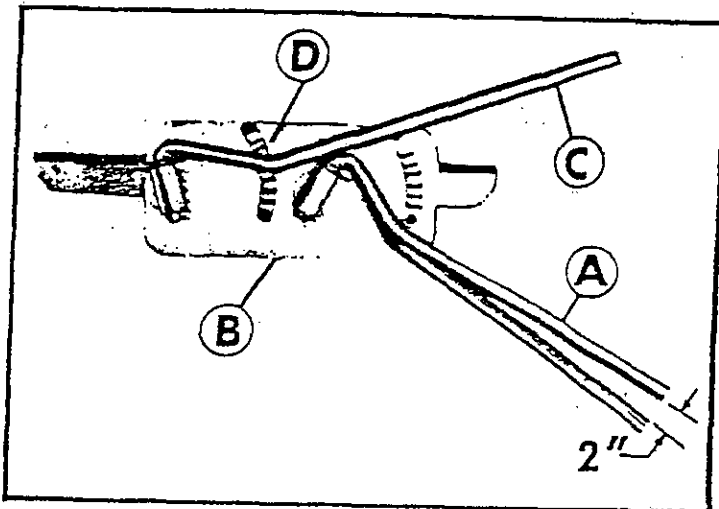

FIG. 3
The clutch control rods (A) Fig. 2 are adjusted by removing the clutch control rod ends (B) from the levers (C) and, with the control handle (A) Fig. 3, on the control stand (B) in a position about two inches from the extreme back position as shown in Fig. 3 and with the clutch engaged; release the lock nuts (D) Fig. 2, adjust the clutch control rod end studs (E) in or out until the rod ends (B) align with the pins on lever (C). Complete the adjustment by mounting the rod ends (B) on the pins on levers (C) inserting the cotter keys and tightening lock nuts (D).